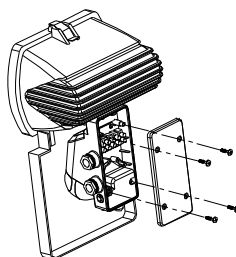

FIGURE 8
1) Undo the four fixing screws from the wiring box cover and remove the cover (FIGURE 8).